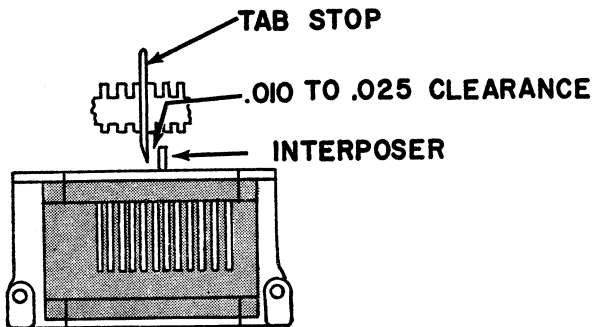

Figure 10. Tab Check Lever Keeper Adjustment
a. Tabulate to a tab stop and backspace twice. Depress the same key with the machine turned off. The raised interposer should clear the side of the tab stop by $.010''$ to $.025''$. Adjust the tab check lever keeper left or right to obtain this condition (Figure 10).